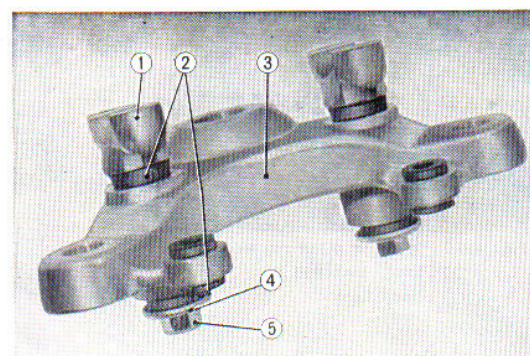

Fig. 4.13 Component parts of fork top bridge
5. Unscrew the 10 mm hex nut and remove the front fork washer, handle bar cushion rubbers and the handle bar pipe under holders from the front top bridge. (Fig. 4.13)